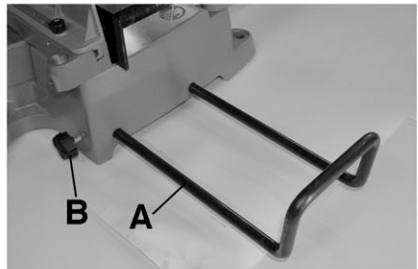

Figure 6
If additional support is needed, it is high recommended to pull out the retractable extension wings (A) Fig.6, unlock knob (B), pull out extension wing and secure it in place by tightening the lock knob (B). Repeat for other side.